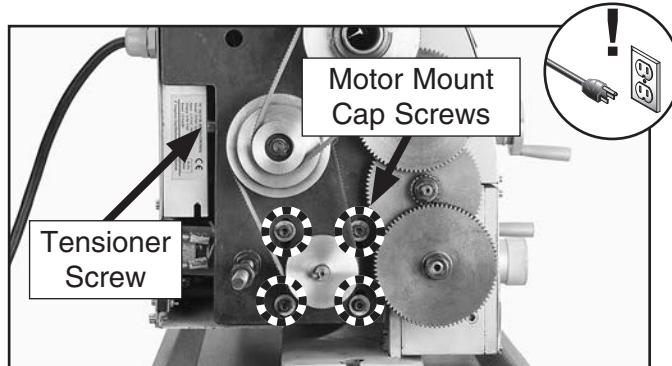

Figure 151. Motor mounting screws
3. Loosen tensioner screw several turns (see **Figure 151**) to remove tension on V-belts.
4. Remove motor mount cap screws (see **Figure 151**).